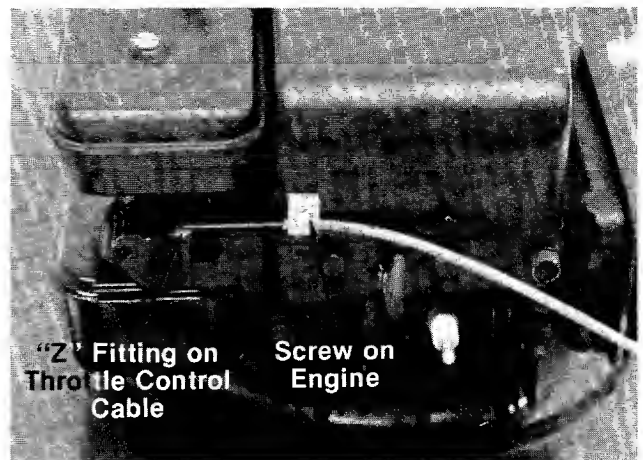

FIGURE 28.
6. Disconnect the throttle control cable from the engine by loosening screw on engine and disconnecting the "Z" fitting. See figure 28.